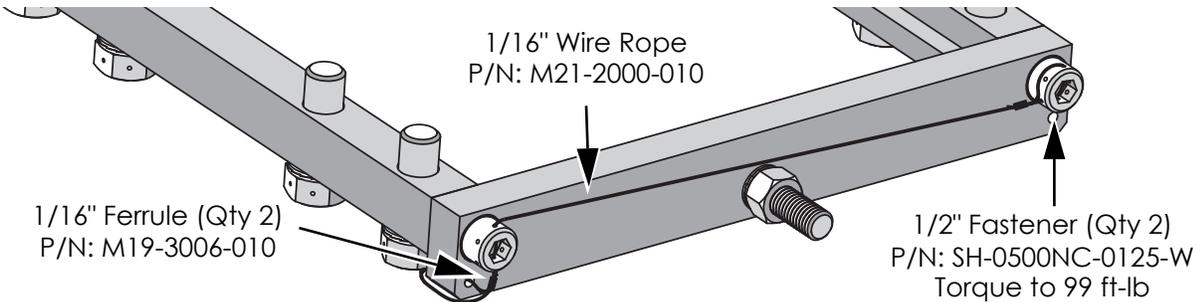

Figure 9: Safety Wire the bolts on the Adjuster Plate
- Use 1/2" fasteners (P/N: SH-0500NC-0125-W) to fasten adjuster plate to the stabbing bell guides. See Figure 9. Torque 1/2" fasteners to 99 ft-lb.
- Secure with 1/16" wire rope (P/N: M21-20000-010) and 1/16" ferrule (P/N: M19-3006-010) as shown in Figure 9.